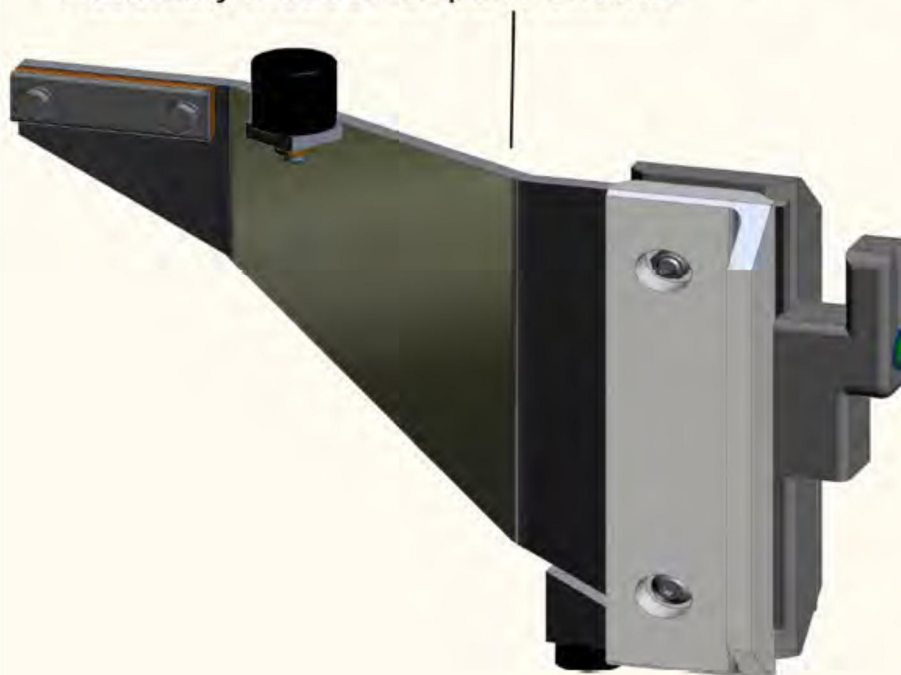

Figure 2
6. Remove the old end brackets from the tension strap. Install the new end brackets. For 14" SC and 17" SC model doors, there is a right and left end bracket. (See Figures 2 & 3)